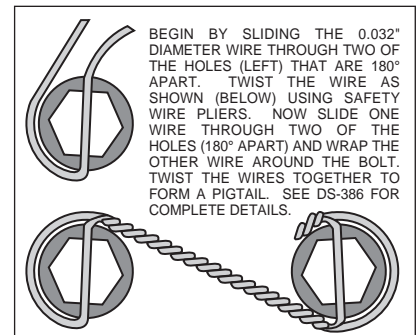

Figure 4. Safety Wire Diagram
- Pack the large inner bearing cone (6) with high temperature disc brake bearing grease (available from your local auto parts store) and install into the backside of the hub (5).
- Install the grease seal (7) by pressing into the backside of the hub (5).
- Attach rotor adapter (8) to rotor (9) using eight bolts (10). Torque bolts (10) to 180 **in-lb**. Safety wire bolts (10) using standard 0.032 inch diameter stainless steel safety wire as shown in Figure 4. Please refer to Wilwood's data sheet DS-386 (available at www.wilwood.org/ds386.pdf) for complete safety wire installation instructions. **NOTE:** The flat side of the rotor (8) lugs face toward the rotor adapter (9) with the dished side of the rotor adapter (8) facing away from the rotor (9).